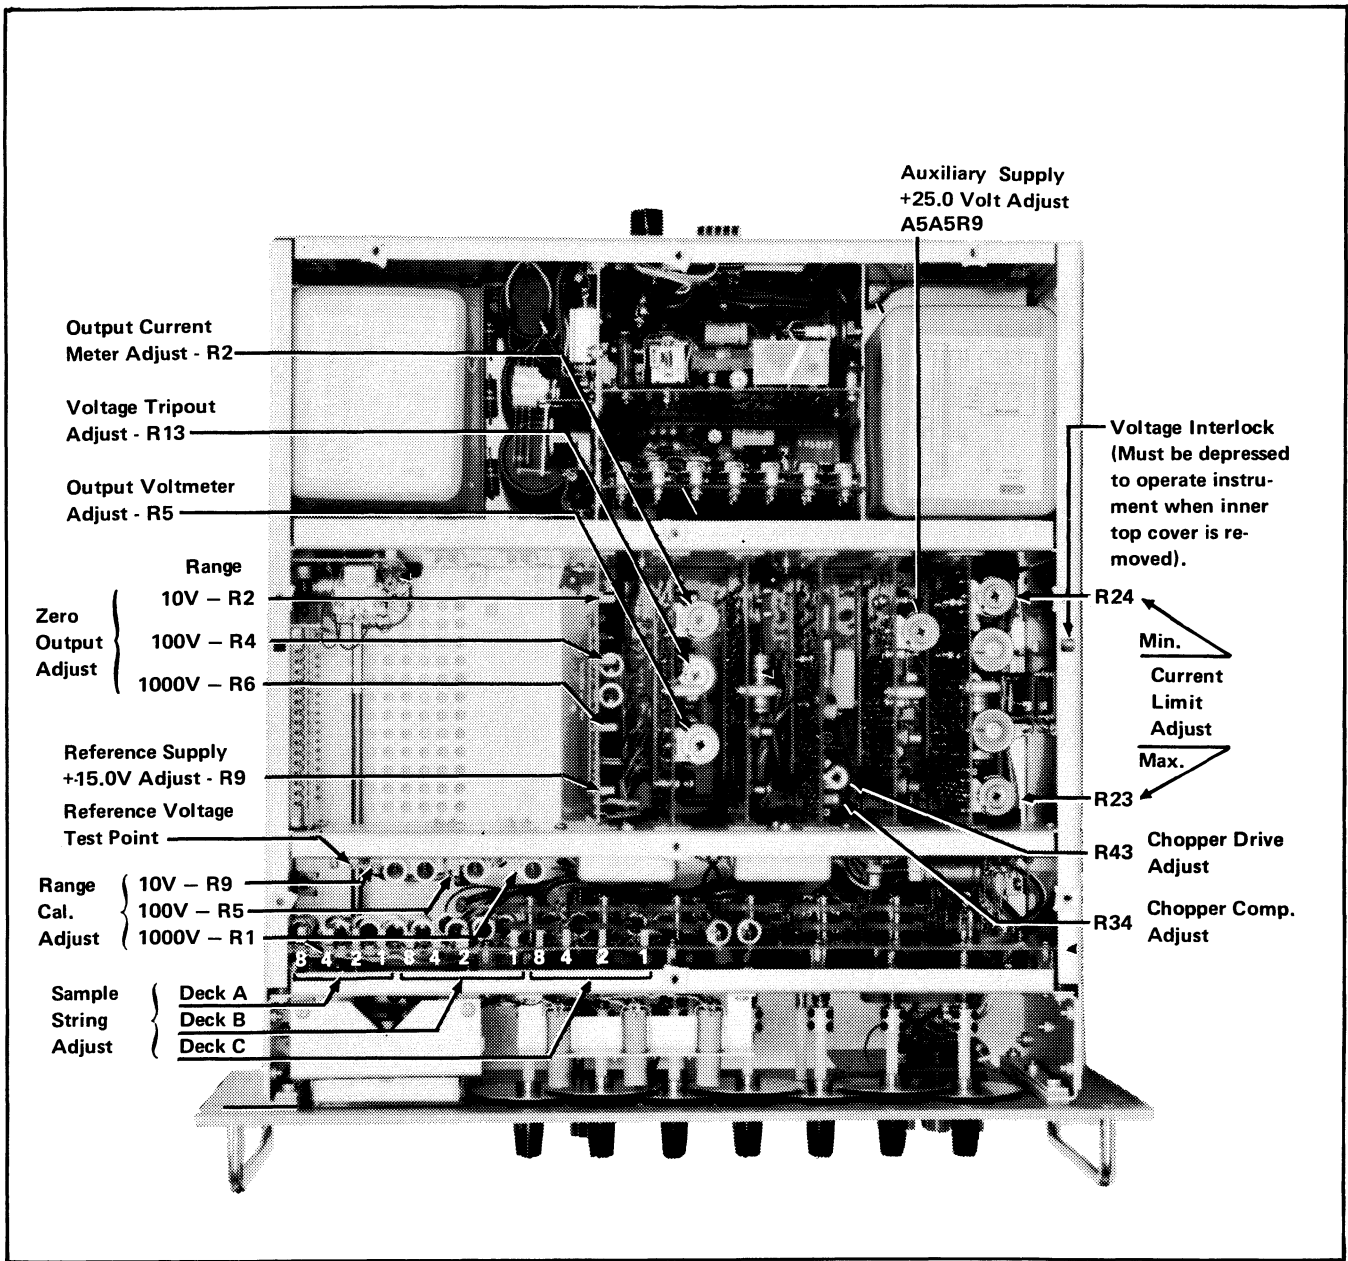

Figure 4-2. LOCATION OF ADJUSTMENTS
- b. Referring to Figure 4-2, adjust A5A5 R9 until the Model 895A indicates 25 volts, ± 10 millivolts.
- c. Referring to Figure 4-2, adjust R23 for a 60 milliampere indication on the external meter.
i. Set the RANGE and decades on the 332D as listed in Table 4-9. Adjust the 895A to 10.0 00 00 volts. Adjust the range calibration pots (CAL) shown in Figure 4-2 as required.